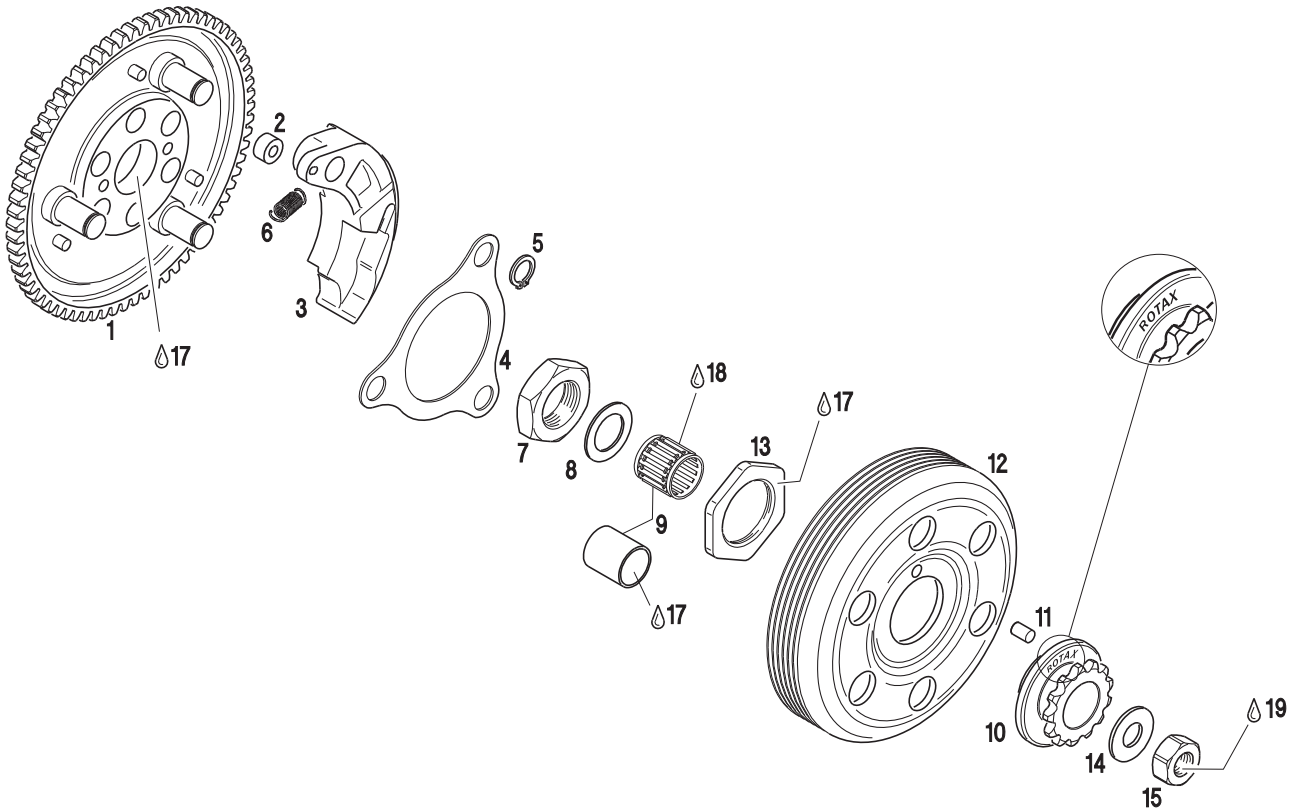

Fig. 15
- ➔ Remove hex. nut (item 15) and thrust washer (item 13). See fig. 15.
- ➔ Remove clutch drum (item 12) with fitted chain sprocket.
- ➔ Clear thread of crankshaft and hex. nut (item 15) from remains of bonding agent and degrease.